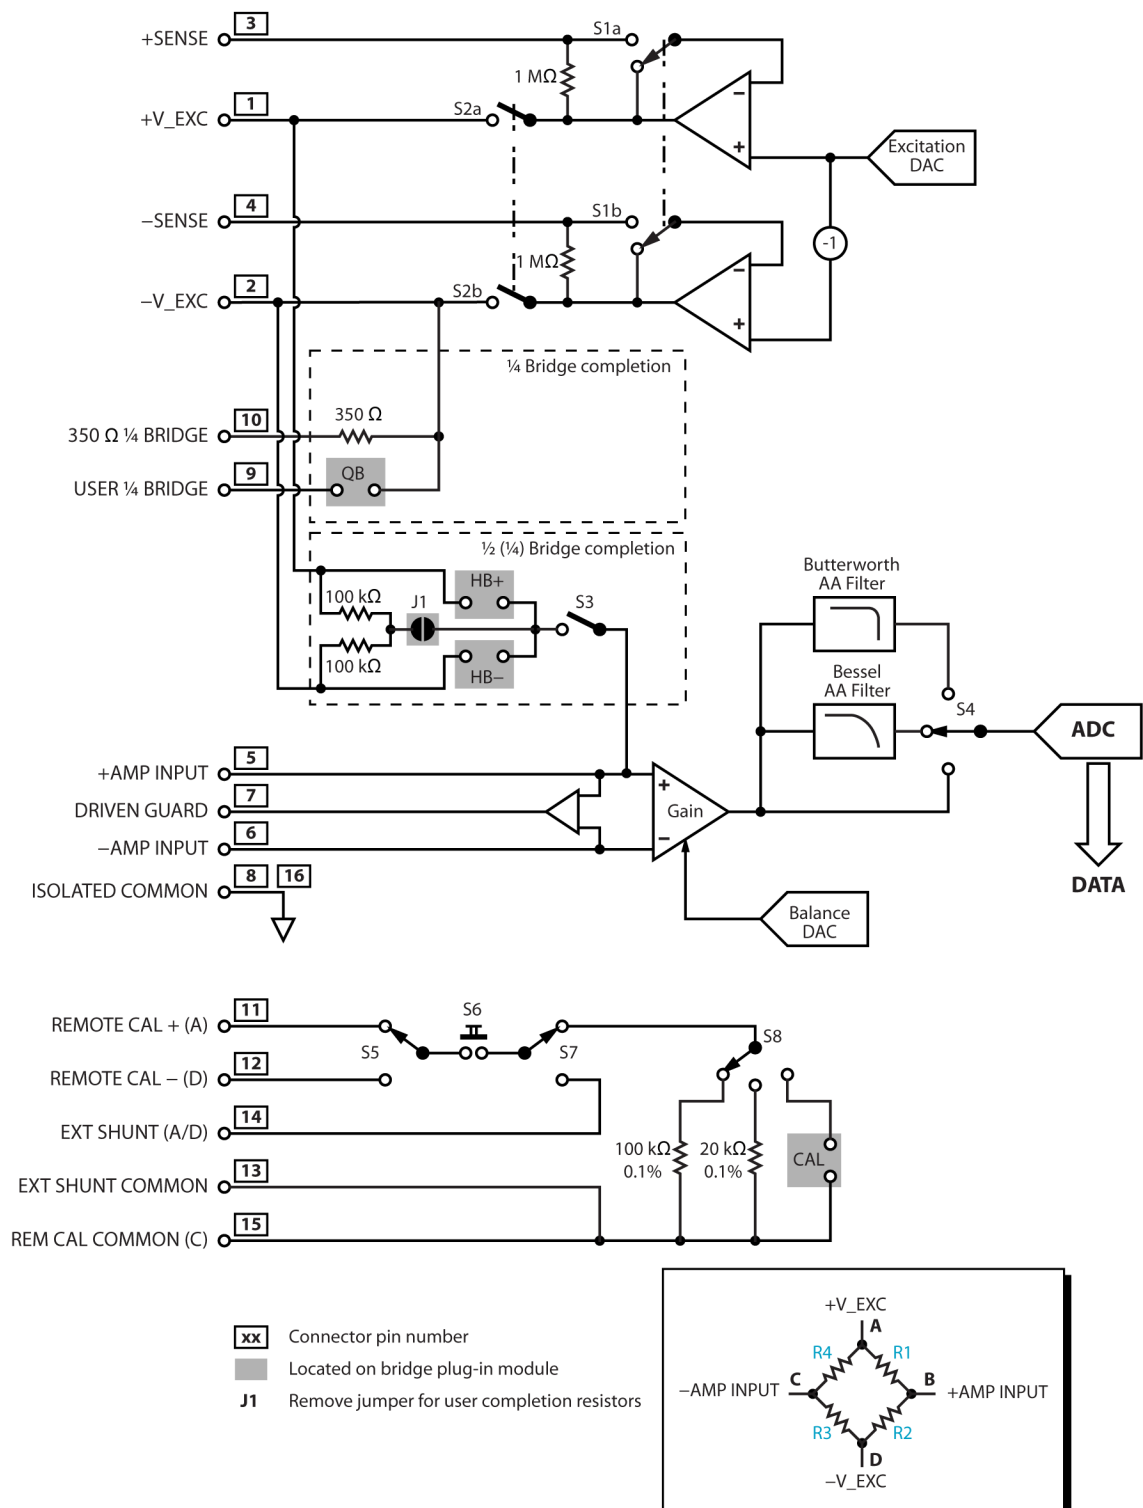

Figure 12.21: Bridge amplifier block diagram with pinning
- E Sense on/off (S1a and S1b in Figure 12.21 on page 312)
- I Excitation on/off (S2a and S2b in Figure 12.21 on page 312)
In situation (2) you will need to add the two resistors to the plug-in module on the locations marked HB+ and HB-. You will also need to remove the jumper J1. Refer to Figure 12.21 on page 312 for electrical/schematic details and to for mechanical/location details.
- 5 When you select half bridge completion, switch S3 in Figure 12.21 will be closed.